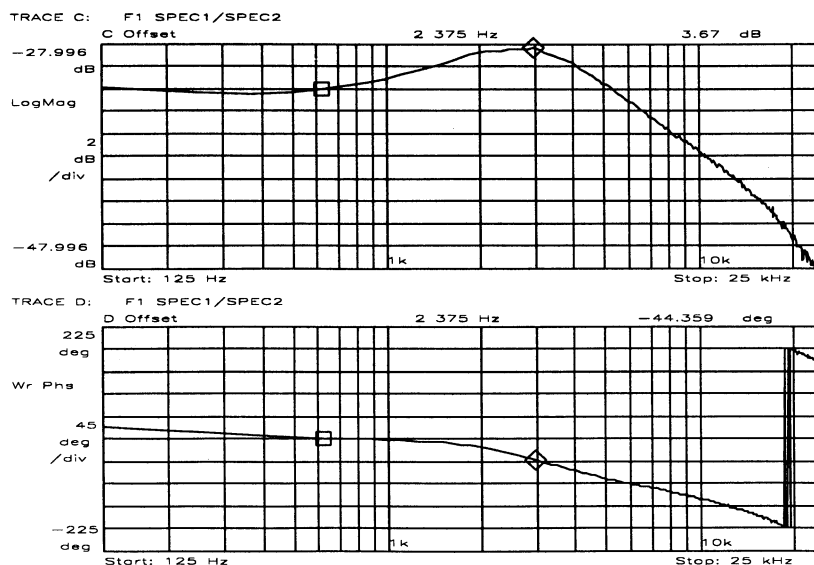

Figure 8. The HP 89440A provides a fast, accurate measurement of the PLL's response, including both phase and magnitude.
The HP 89440A provides this same quick technique, but it is significantly faster and provides better answers. Making this measurement with the HP 89440A is simple and straightforward. The main RF input channel is connected at the output of the VCO, and PM demodulation is activated to measure θ_o . A baseband frequency chirp is injected into the summing node, and the baseband input channel measures this input (X). The baseband channel's frequency span automatically tracks the demodulated span on the RF channel, so the two spectra have the same frequency span. The analyzer's trace math computes the transfer function (θ_o/X), and the offset markers are used to determine the loop peaking. The results, including magnitude and phase, are shown in figure 8.